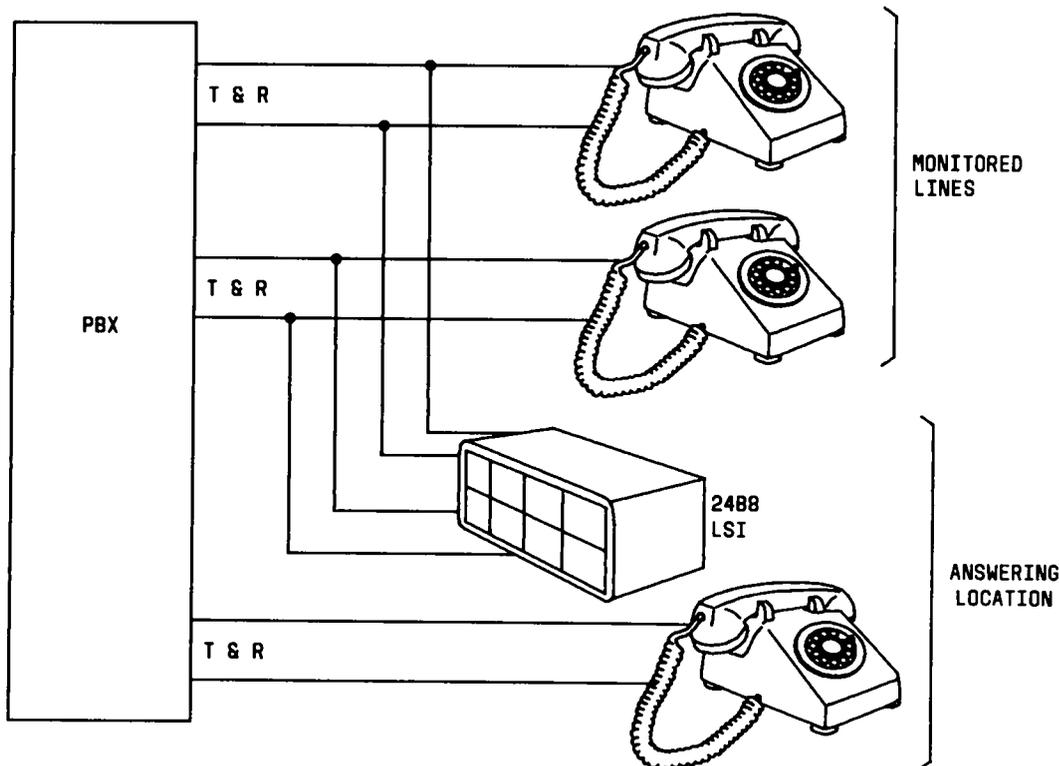

Fig. 29—2448-50 Line Status Indicator
4.79 The 24-type line status indicator is used to provide visual status and audible indication of specific station lines (off-hook, on-hook, and ringing). The LEDs indicate the status of each line. The line status indicator is available with capacities for monitoring 8, 16, or 32 lines and can be mounted at a desk or on a wall. The line status indicator is bridged across the "T" and "R" leads of the monitored stations. A maximum of four 24-type line status indicators can be bridged across the same station line. Figure 29 illustrates the mounting cord terminations for the line status indicator. The line status indicator uses commercial 120-volt, 60-Hz ac power. The A25B connector cable to connect T and R leads of monitored lines must be ordered separately. The following equipment is also required: